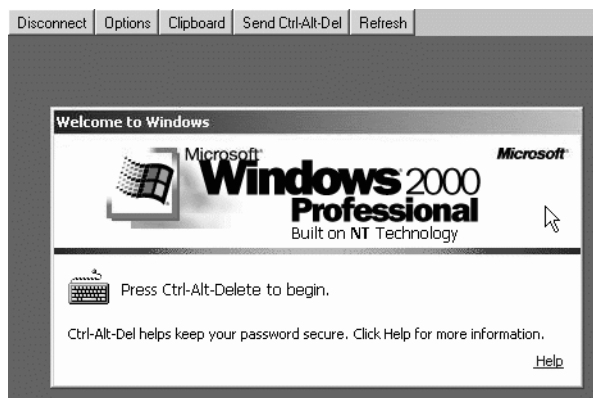

Figure 3: Welcome to Windows dialog box
3. Type the password and click **OK**. The **Welcome to Windows** dialog box displays (Figure 3).